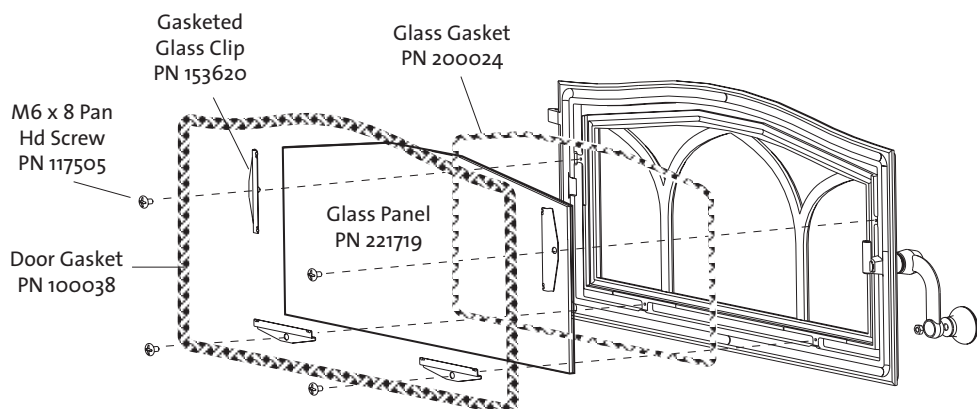

Figure 19. Replacing the door glass and gaskets.
2. First loosen and then carefully remove all of the glass clips from the inside of the door. See fig. 19.